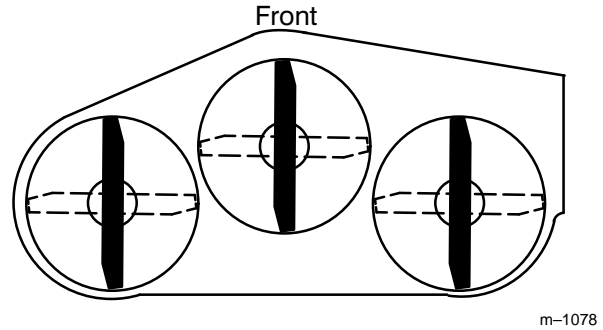
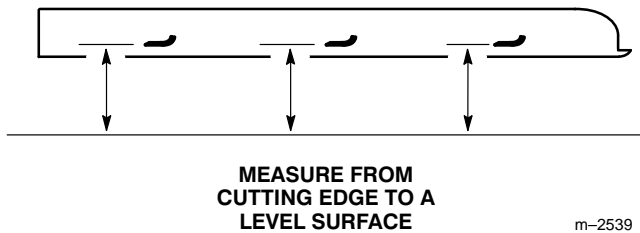

Figure 17
Figure 18
2. Rotate the blades until the ends face forward and backward (Fig. 17). Measure from a level surface to the cutting edge of the blades (Fig. 18). Note this dimension.